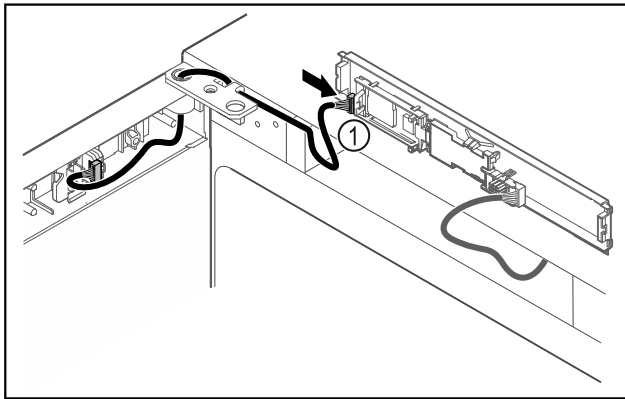

Fig. 67
- Connect the plug Fig. 67 (1) to the circuit board.